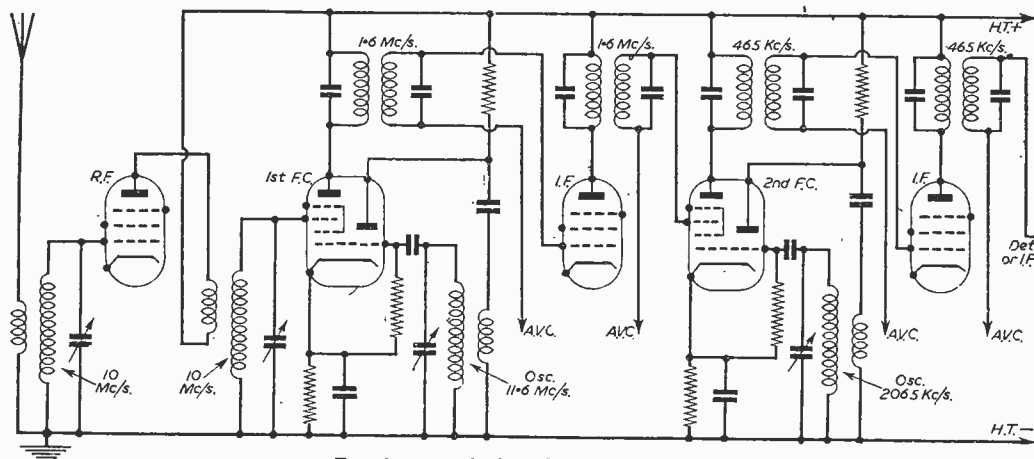

Fig. 1—A typical R.F., F.C., I.F. circuit.
Fig. 1.—The elements of a vertical aerial have a capacity to the earth, which has resistance. The equivalent lumped circuit closely approximating a short vertical aerial is shown on the right. R RAD represents the radiation resistance, RE the effective loss resistance introduced by the ground losses.
achieve anything but a "short" aerial. The equivalent circuit of a "short" aerial may be represented (Fig. 1) as a capacity representing the capacity to earth of the antenna, plus the radiation resistance (R RAD) which accounts for the power radiated, and the earth loss resistance (RE) which represents the power uselessly dissipated in earth losses. In order to tune this arrangement, a base-loading coil must be used. As all practical loading coils have losses, even a high Q coil will add appreciable resistance, so that the power available for the antenna circuit is shared between earth losses, coil losses and the radiation resistance. Even the use of a counterpoise does not eliminate earth losses, as the counterpoise has a high capacity to ground, which means that in fact R.F. circulates in the soil and due to the soil
A typical circuit of this kind is shown in Fig. 1. Here it is assumed that a signal on 30 metres, or 10 Mc/s, is being received. Both R.F. and F.C. signal-frequency circuits are tuned to 10 Mc/s by means of the usual gang condenser. This, with the high I.F., virtually eliminates image interference. In some sets the second F.C. stage follows immediately or a stage of I.F. amplification may precede it, as in Fig. 1. No variable tuning is present in the second F.C. stage, which converts to 465 kc/s. One or more I.F. stages of usual type then follow.